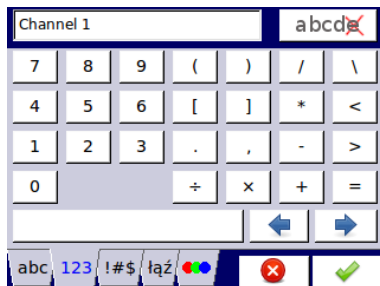

Fig. 7.2. Text editor – numbers
- numbers and arithmetic signs, see Fig. 7.2,